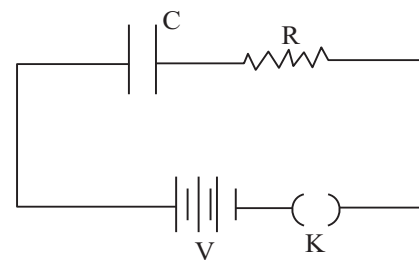

Fig. 25.1
- Refer to the circuit shown here (Fig. 25.1). Let the capacitor be uncharged initially. On closing the key at $t = 0$ the charging current I in the circuit decreases exponentially with time from its initial value $I_0 = V/R$ to zero as